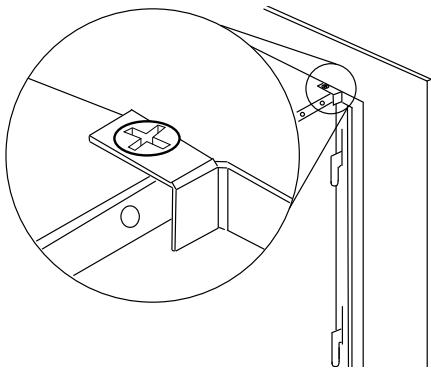

Fig. 4-1
- Place one hand on the front glass and remove the 2 screws from the top of the appliance (**Fig. 4-1**).